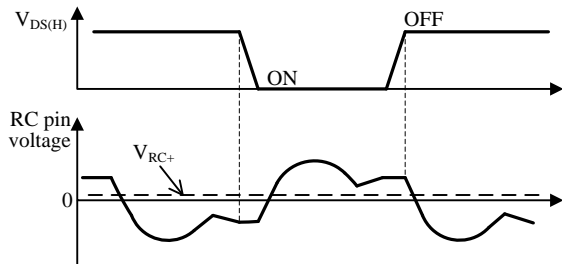
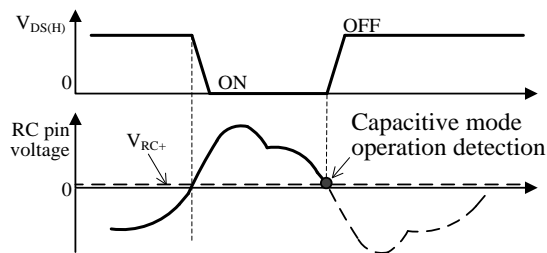

Figure 8-23. RC Pin Voltage in Inductance Area
Figure 8-24. RC Pin Voltage in Capacitance Area
Figure 8-23 shows the RC pin waveform in the inductance area, and Figure 8-24 shows the RC pin waveform in the capacitance area.
In the inductance area, the RC pin voltage doesn't cross $V_{RC} = +0.155$ V in the downward direction during the on period of Q_(H) as shown in Figure 8-23.
On the contrary, in the capacitance area, the RC pin voltage crosses $V_{RC} = +0.155$ V in the downward direction. At this point, the capacitive mode operation is detected. Thus, Q_(H) is turned off, and Q_(L) is turned on, as shown in Figure 8-24.
• **Period in which the Q_(L) is On**